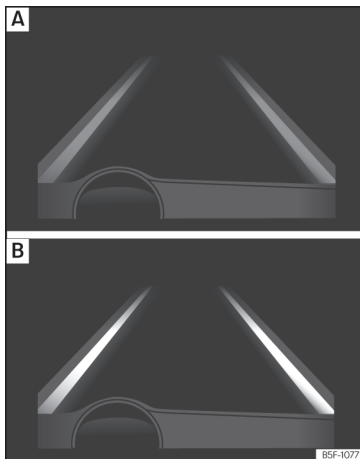

Fig. 270 On the instrument panel display: Indication on the Lane Assist system display [example 1].
- **Fig. 270** [A]: The system is active, but not available, either because the minimum speed has not been reached or because the lane lines are not recognised.
- **Fig. 270** [B]: The system is active and available, both lane lines are recognised. The steering angle is not being corrected at this moment. »